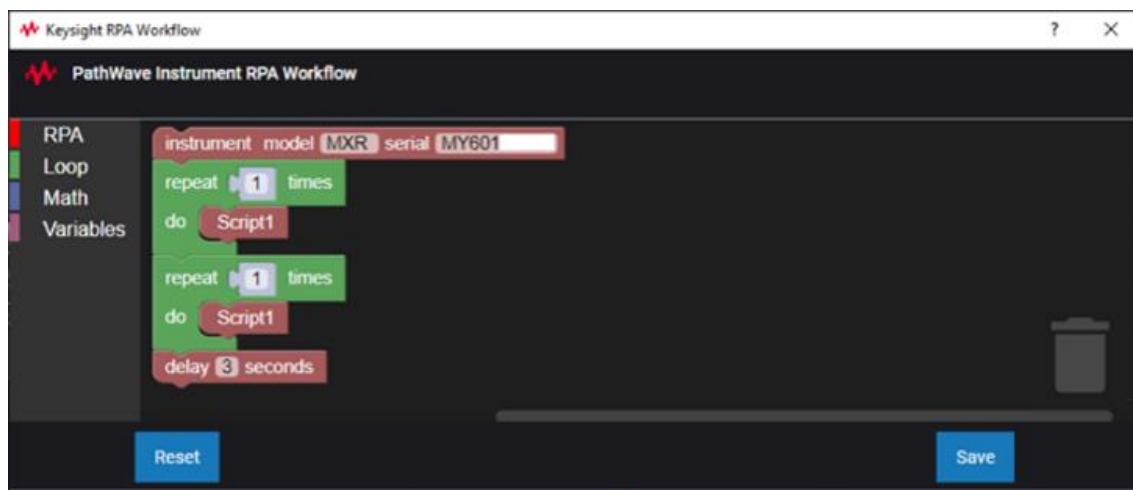

Figure 1: PathWave Instrument RPA Visual Script Editor
- For editing automation sessions, PathWave Instrument RPA provides a simple visual script editor (Figure 1). Automation sessions and parameters can be edited directly and re-configured via dragging-and-dropping blocks.